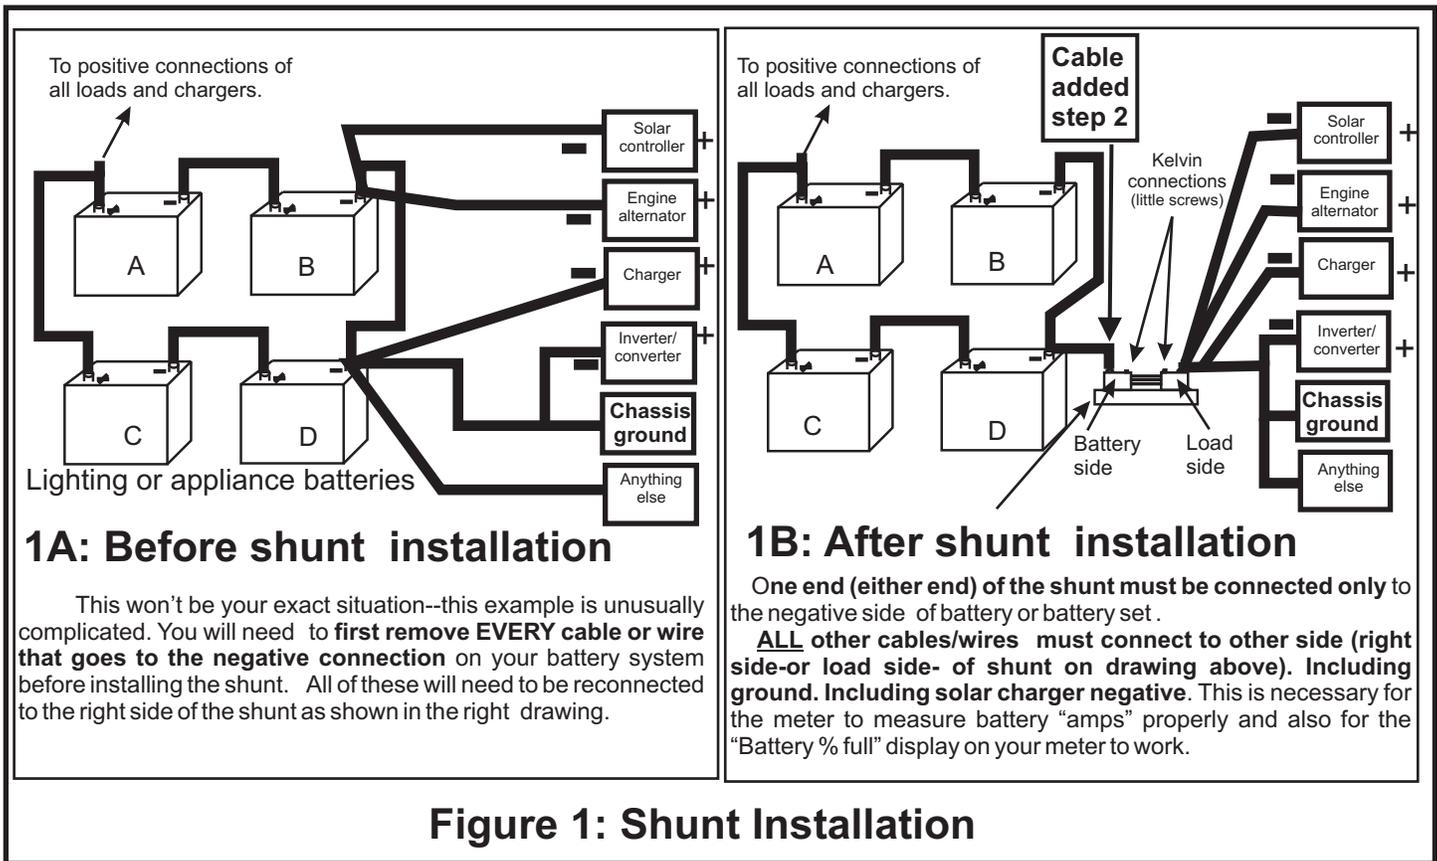

Figure 1: Shunt Installation
A shunt (an accurate, very low resistance power resistor) must be wired into your battery system as described in section B of these instructions, shown on the wiring diagram page 8. The “amps” shown on the meter measures whatever current passes through this shunt—so it must be wired in series with the wire which carries the current to be measured. **The shunt is almost always installed between the negative terminal of the battery and all the loads and charging sources** (see Figure 1 on page 7.) It is located near the batteries, since the high current carrying wires must be kept short. The TriMetric meter measures the current (“amps”) by measuring the very small voltage drop across this shunt. The voltage drop across the shunt is very small—with the 500A/50mV shunt it is equivalent to only a 2 foot additional length of 0000 gauge cable in series with your main wiring.
- “shunt to battery cable:” Prepare or obtain from an electrical supply or auto store a “shunt-battery cable” (about 6 inches to several feet long as needed,) with diameter at least as large as the largest cable going to the negative battery connection. The cable size must be large enough to accommodate the maximum system charging or discharge amps from the battery. It should have suitable bolt lugs at each end. One end will connect to one large bolt on the shunt—the other end to the battery negative post. See Figure 1 on page 7.
STEP 1: Turn off main breaker to battery. Check figure 1 on page 5 to see how the shunt will be connected when you complete step 3. Remove EVERY wire and EVERY cable connected to the negative side of your battery system. After you have accomplished this step you will be left with one or more dangling cables that will be reconnected to the shunt in STEP 2. A common error is to leave one or more still connected.
C1. How to determine program item P3: “battery system capacity” This is a number in “amp hours” that indicates how much charge your batteries hold when they are fully charged. For “deep cycle” batteries this number is specified by the battery manufacturer. Find the “capacity” in amp hours from the manufacturer. If several different values of “capacity” are given, you can use the “20 hour discharge” value. If you have only one battery then use that value in P3: It is more usual to have more than one battery connected together as shown in Figure 1: Batteries A and B are connected “**in series**”. String A-B is then connected “**in parallel**” with string C and D.